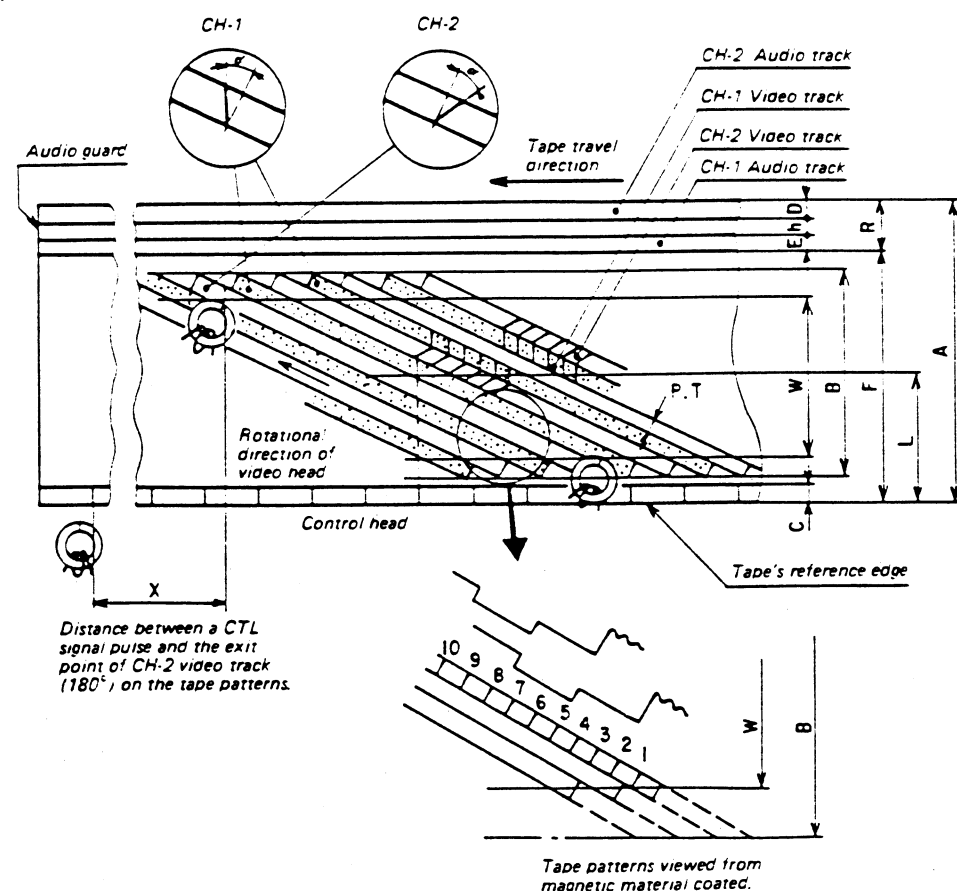

Fig. 1-1-1 Magnetic tape patterns
* Fig. 1-1-1 shows magnetic tape patterns in the VHS format. Table 1-1-1 shows specifications for the patterns shown in Fig. 1-1-1.